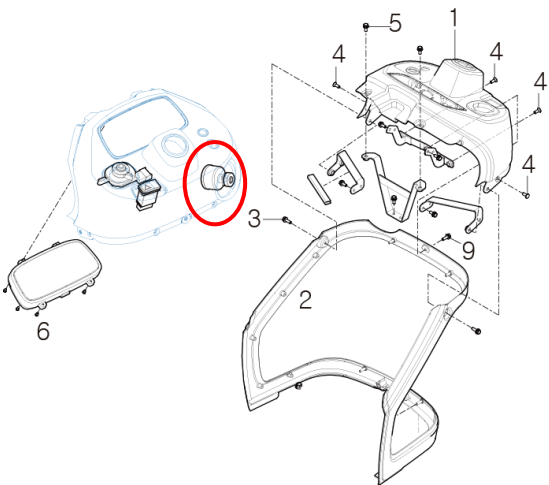

Fig.10-8
(1) Removal
- a. Remove the dash cover (2).
- c. Pull out the key switch as shown in Fig.10-8